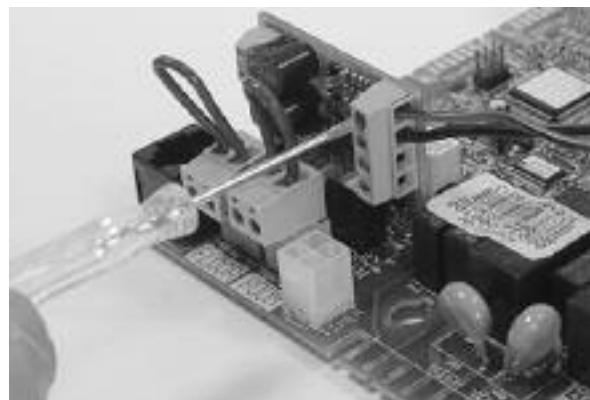

Fig. 113
- Install the interface module supplied in the kit on the main PCB (see *Fig. 113*)
- Connect the wires between the external sensor and the interface (see *Fig. 113*).